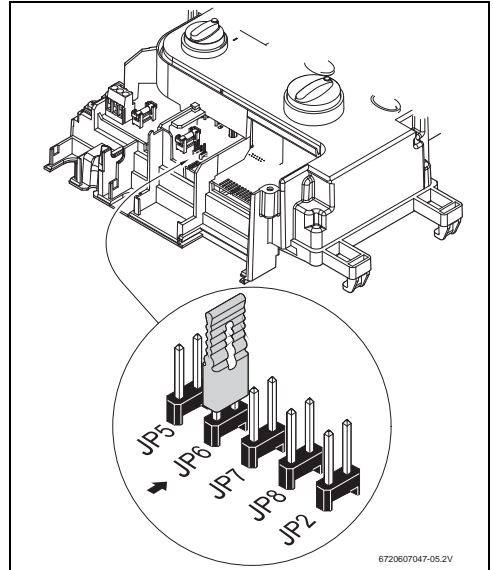

Fig. 21 Jumper (natural gas configuration)
- ▶ Set the jumper settings according to Fig. 21.